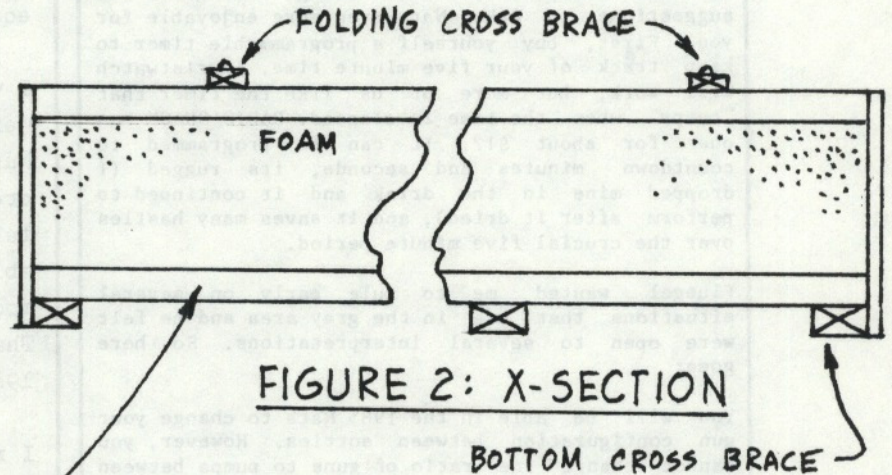
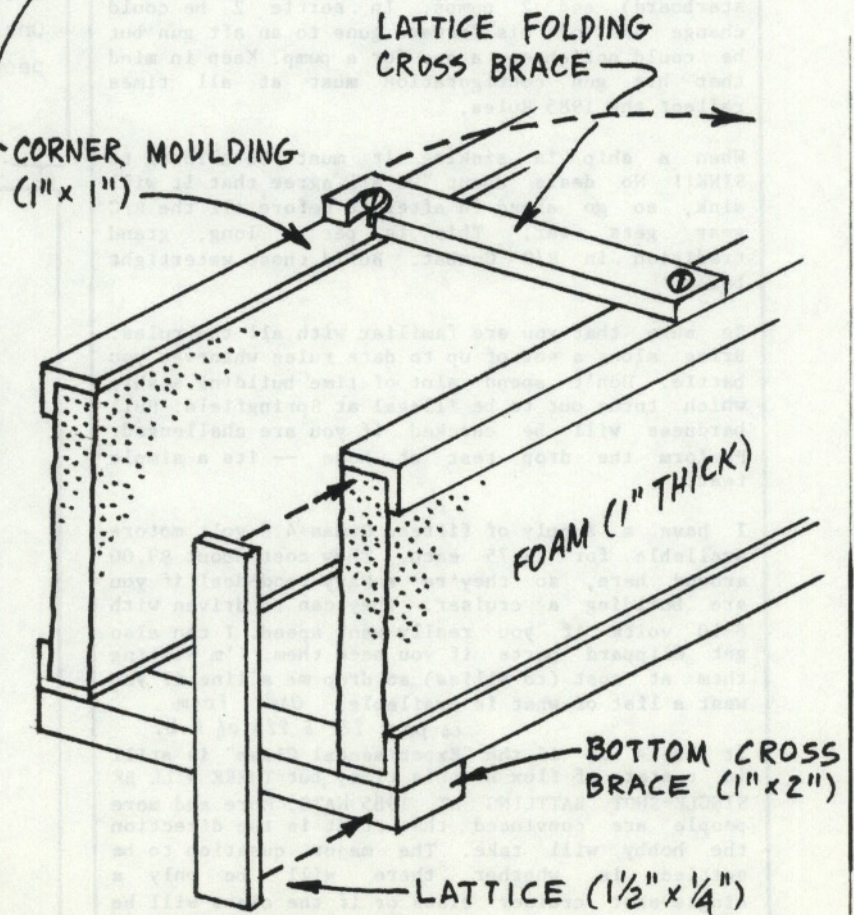

FIGURE 2: X-SECTION
FIGURE 1: END DETAIL
Figure 1 shows an isometric drawing of a typical case. Figure 2 shows a cross section of the carrying case. Note that the case is topless and, except for the bottom cross braces (3), it has no bottom. The sides are built of styrofoam and pine trim. The RODNEY case has one end built in for strength, but the cruiser cases have no ends at all—they are essentially troughs. Depending on the length and weight of your ship, decide on which type you wish to build. The 1" x 1" corner moulding at the top and bottom of each styrofoam side provides strength and also protection so that the styrofoam isn't dented. The styrofoam and pine trim is available at your local lumber store. The styrofoam is sold in 4' X 8' or 2' X 8' sheets. It is 1" thick. (It is sold for insulation.) It can be easily cut with a table saw or even a razor knife.